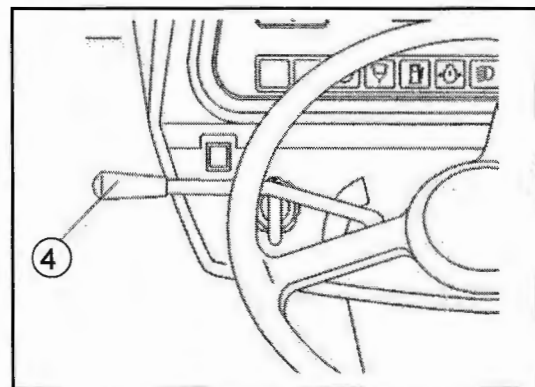

Fig. 16-3 - Shuttle Drive Lever
Although the tractor does not have to be stopped completely to reverse the direction of travel, you should stop the tractor, depress the clutch pedal and shift the shuttle lever (4) for safety. (See Fig. 16-3).